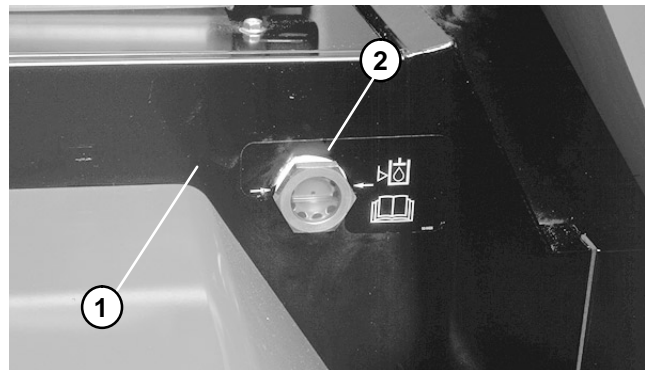

Figure 92
4. With cutting units up and oil warm, look into sight glass. If hydraulic oil is not even with arrows, add enough to raise to proper level. Do not fill full if oil is cold (Fig. 92).